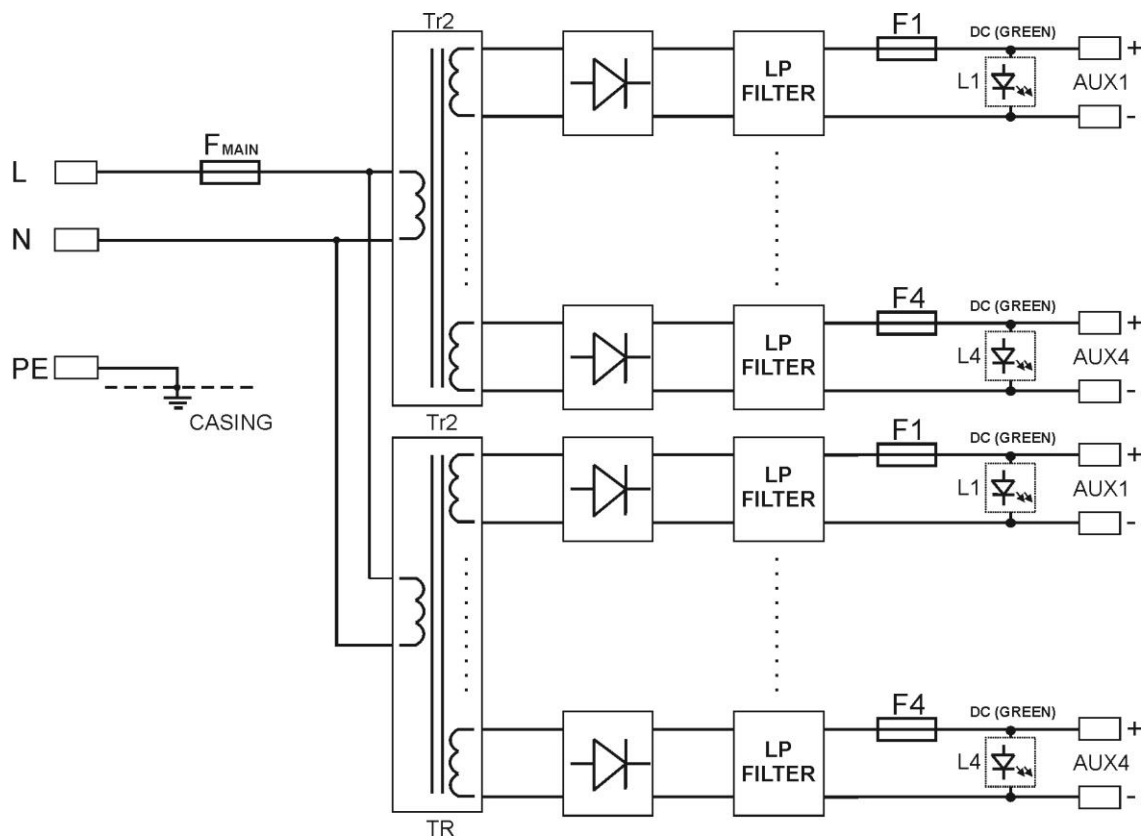

Fig.1. Block diagram of the PSU.
1.2 Block diagram (Fig.1).
A typical application of the PSCU08348SEP power supply is supplying four CCTV cameras using 8-pair twisted pair cable, where three pairs are used for power distribution and one pair for transmitting video signal. Schematic example of the installation is shown in Figure 1. The distance between the PSCU08348SEP power supply unit and the DC/DC converters depends on the type of cable used and the current drawn by the camera. The typical distances are shown in Table 7.